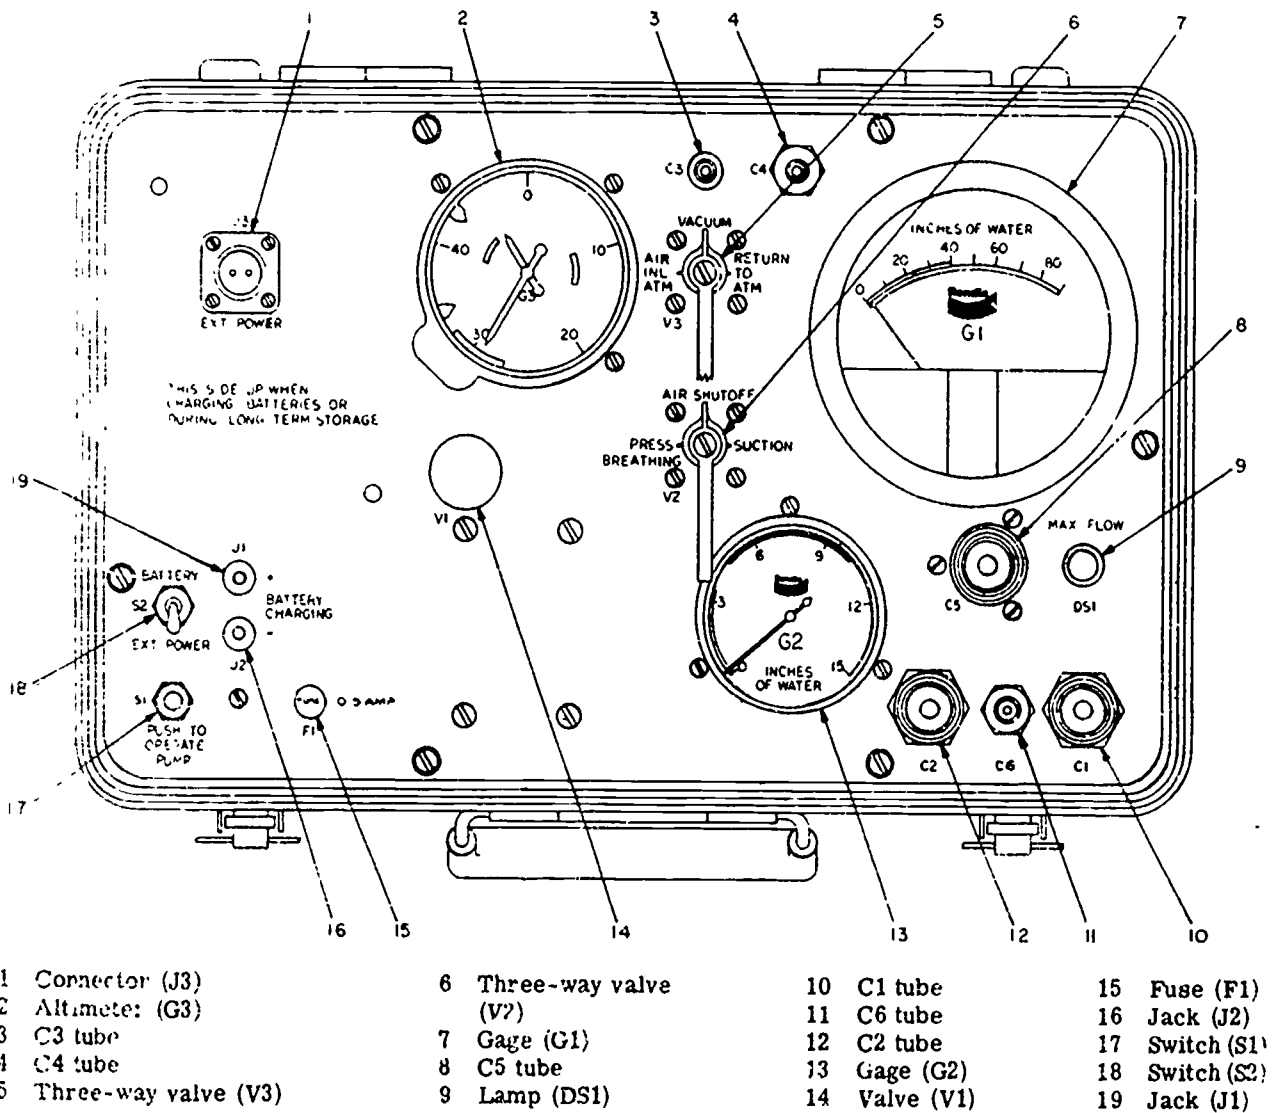

Figure 6. 31TA2655-2 Oxygen Regulator Field Tester.
2. Connect the mask-to-regulator hose of the regulator under test to inlet port C-5 of the tester. Refer to figure 6 for reference points on the tester.